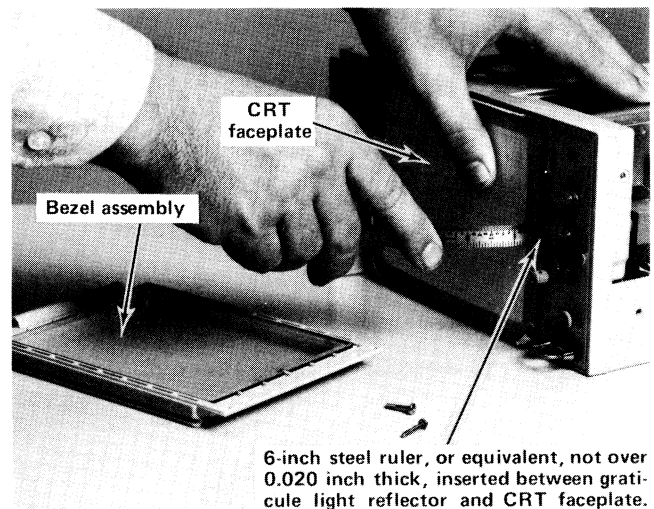

Fig. 3-3. Illustration showing equipment and method used to correctly align light reflector with crt faceplate.
Cathode-Ray Tube Replacement. The following procedure outlines the removal and replacement of the cathode-ray tube. Refer to Figs. 3-3 and 3-4.
a. Make sure the soft plastic crt faceplate supports are in place, then insert the crt into the shield. Before the crt is completely inserted, reconnect the anode plug and place the steel rulers for the light reflector alignment, see Fig. 3-3.